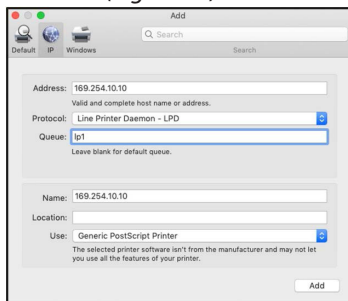

Figure 21
4. If the **Printer** does not appear, select the **IP** tab, located at the top of the screen. (Figure 21)